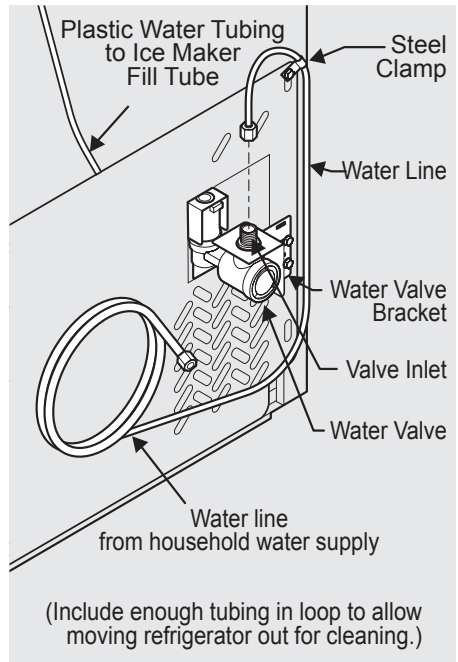

Figure 2
**If you use stainless steel or polyline tubing** - The nut and ferrule are already assembled on the tubing. Slide compression nut onto valve inlet and finger tighten compression nut onto valve. Tighten another half turn with a wrench; DO NOT over tighten. See Figure 2.